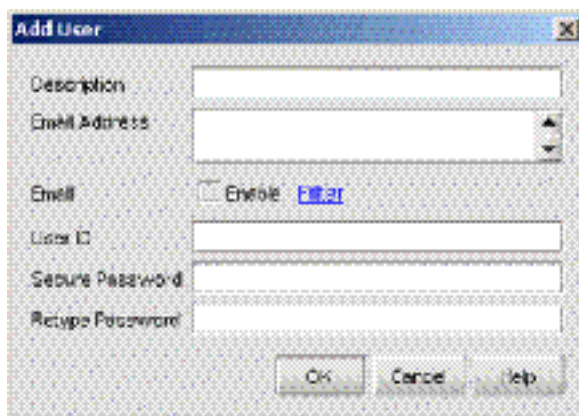

Figure 2-23 Add User Dialog Box
5. Click *Add*. The *Add User* dialog box appears (Figure 2-23).